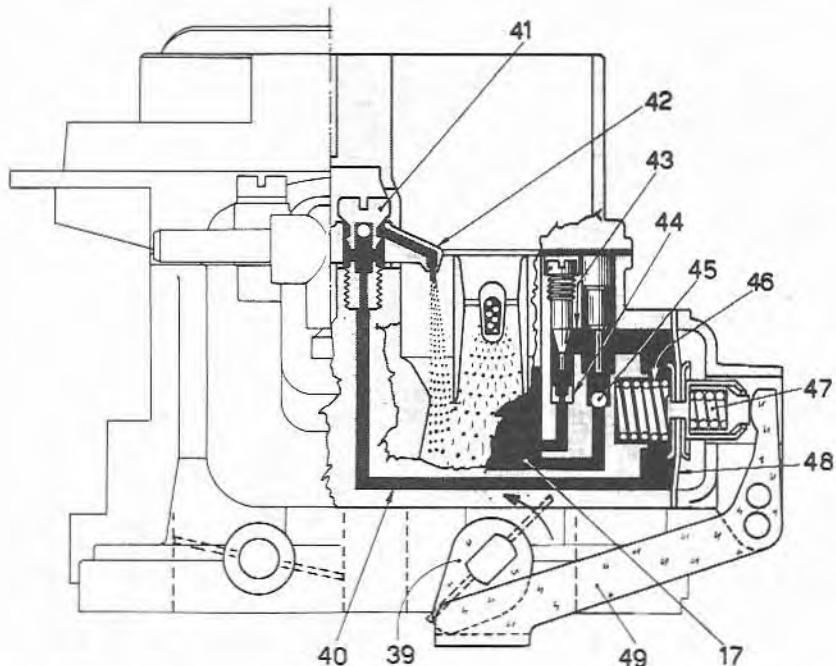

Fig. 7.7 Carburetor acceleration phase (Sec 3)
To provide the engine with a rich mixture when accelerating, the carburetor is provided with a diaphragm type acceleration pump which is operated by the primary throttle shaft and injects only into the primary venturi. Reference to Fig. 7.7 will show that when the primary throttle valve is closed, the accelerator pump diaphragm (48) draws fuel from the float